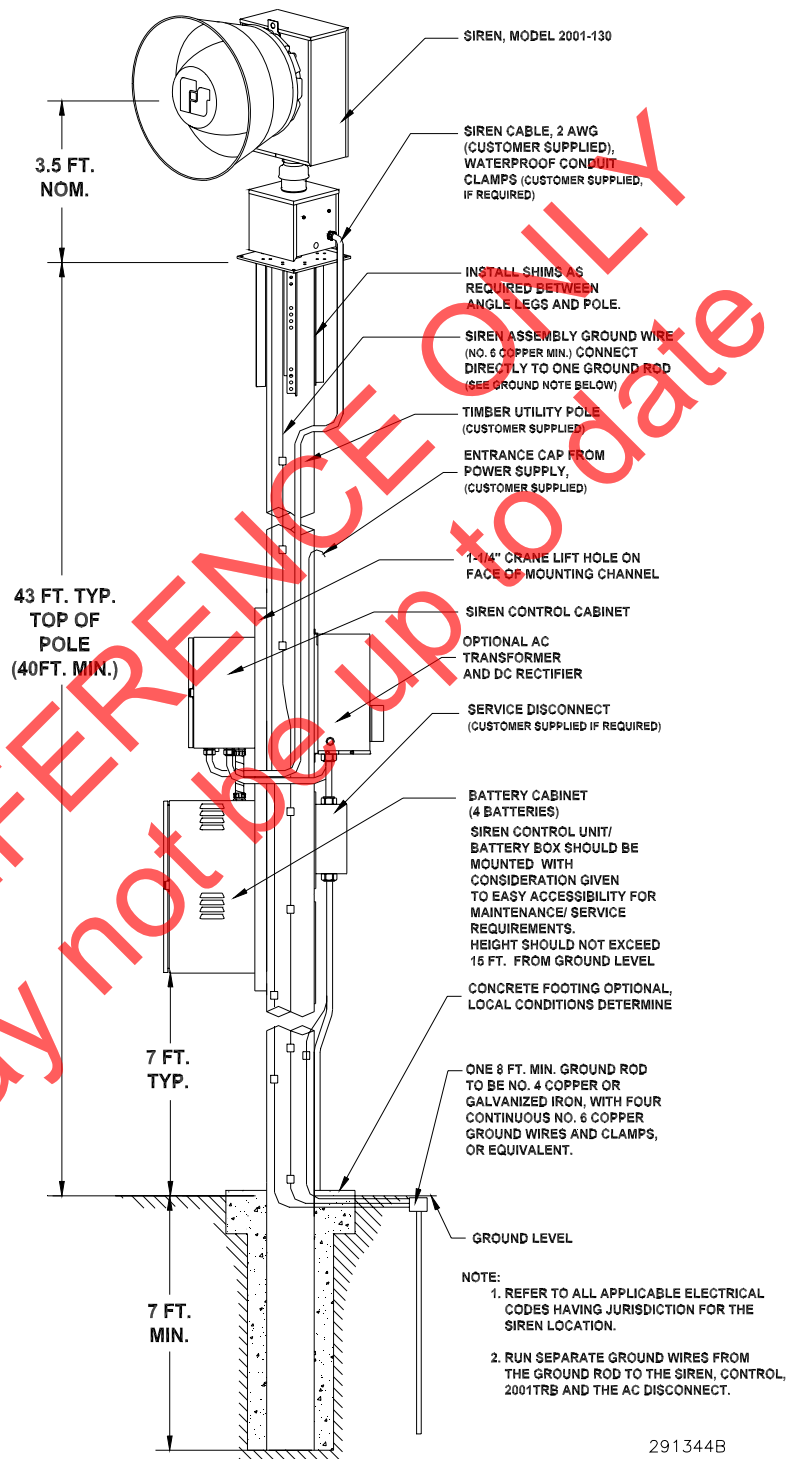
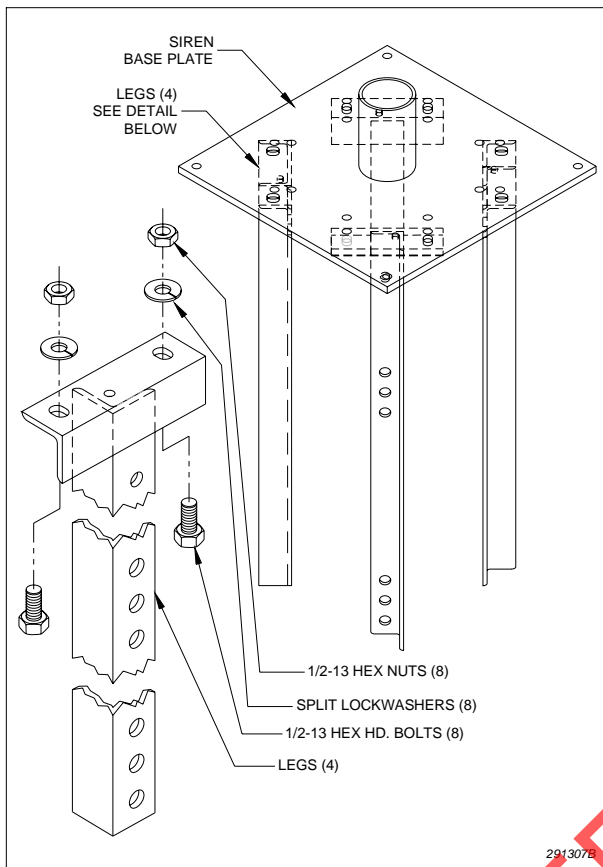

Figure 3-1. Typical Pole-mounted Installation
Figure 3-2. Siren Leg Assembly.
A typical siren pole-mounted installation is shown in *Figure 3-1*. The siren is mounted on a Southern Yellow Pine, Douglas Fir or equivalent Class 2 utility pole 40-50 ft. above the ground. It is attached to the pole by means of legs, as shown in *Figure 3-2*.
2. Install the four legs on the siren mounting plate, as shown in Figure 3-2. Use two 1/2" bolts, nuts and lockwashers (provided) for each leg. Do not tighten the bolts completely.